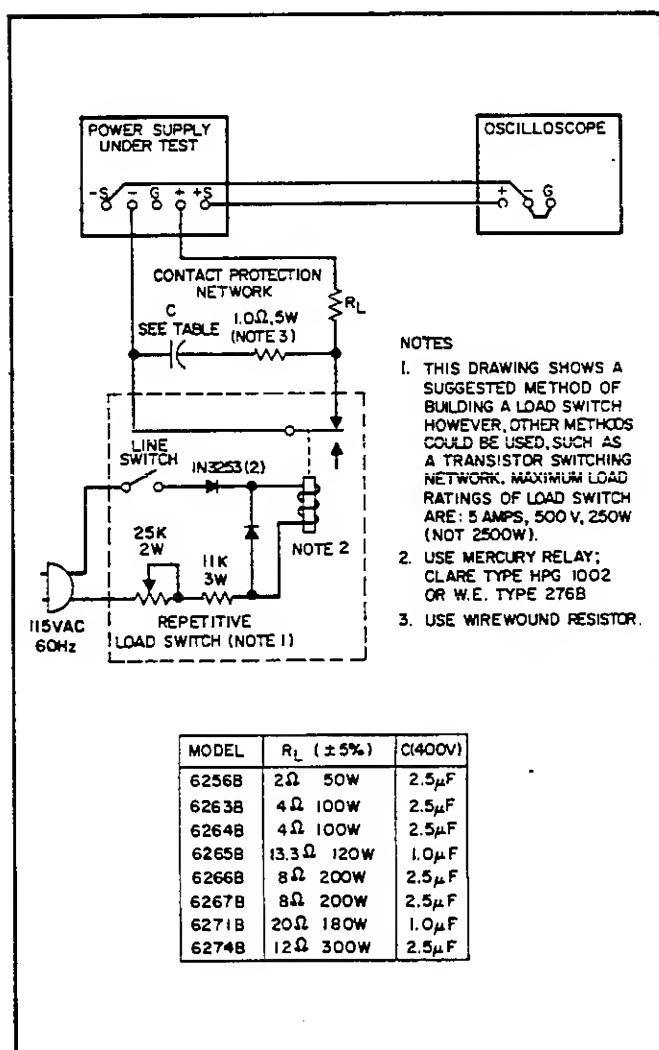

Figure 5-4. Load Transient Recovery Time Test Setup
**5-29** We suggest that a mercury-wetted relay connected in the load switching circuit shown in Figure 5-4 be used for loading and unloading the supply. When this load switch is connected to a 60Hz ac input, the mercury-wetted relay opens and closes 60 times per second. The 25k control adjusts the duty cycle of the load current switching to reduce jitter in the oscilloscope display. This relay may also be used with a 50Hz ac input. The load resistance shown in Figure 5-4 is the minimum resistance that can be used without damaging the mercury-wetted relay contacts.
- Connect test setup shown in Figure 5-4.